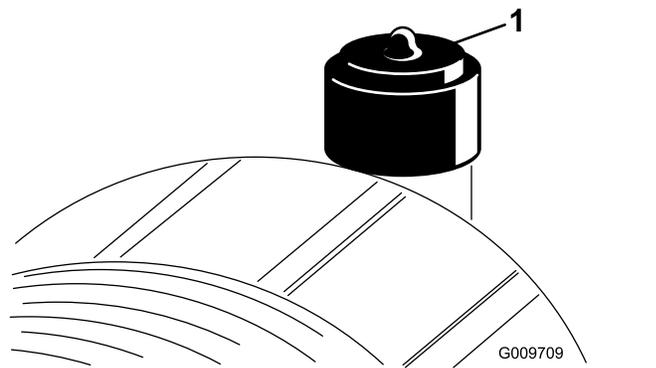

Figure 78
Service the air-cleaner filter only when the service indicator (Figure 78) requires it. Changing the air filter before it is necessary only increases the chance of dirt entering the engine when you remove the filter.
2. Reset the indicator (Figure 78) if it shows red.